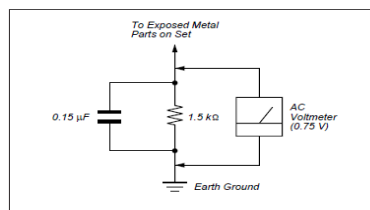

Figure 2. AC voltmeter to check AC leakage
- 3) Measuring the voltage drop across a resistor by means of a VOM or battery operated AC voltmeter. The 'limit' indication is 0.75V so analog meters must have an accurate low voltage scale. The SIMPSON'S 250 and SANWA SH-63TRD are examples of passive VOMs that are suitable. Nearly all battery operated digital multimeter that have a 2 VAC range are suitable. (see Figure 2.)